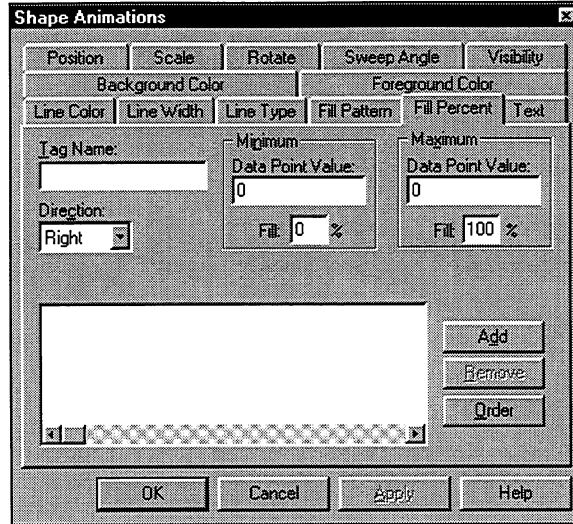

Figure 7-7. Fill Percent Animation Page
3. Select the Fill Percent tab to access the Fill Percent animation page, as shown in Figure 7-7.